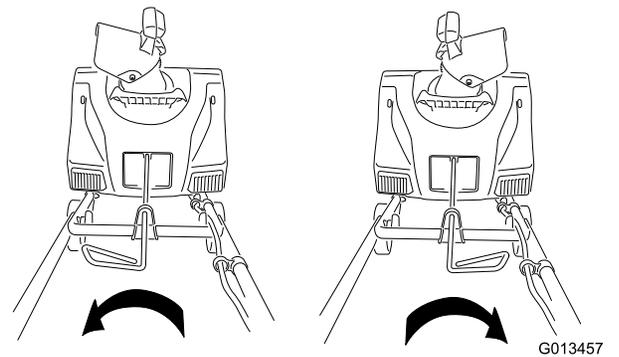
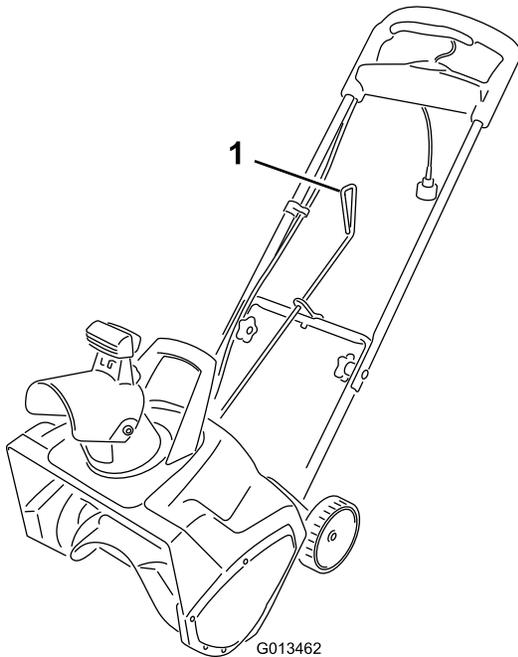

Figure 7
Figure 6
- 4. Ensure that the handle of the chute control rod points upward (Figure 6), and insert the rod into the keyed hole in the back of the housing.
- 6. Move the handle on the chute control rod to ensure that it moves in the same direction as the chute (Figure 7).
To adjust the discharge chute, move the handle on the chute control rod in the direction that you wish to direct the snow stream (Figure 6 and Figure 7).